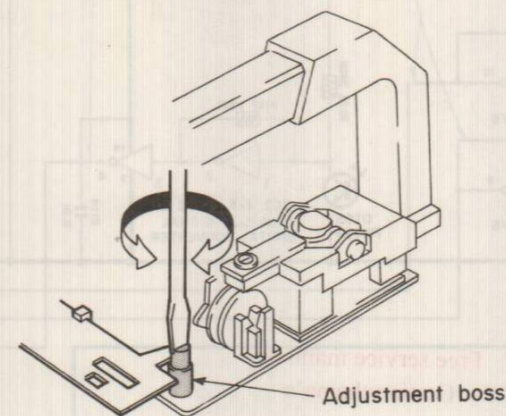

Fig. 5
- 1) Place AIWA test record (ATR-003) on the turntable, press the START/CUT button and turn the adjustment boss to adjust so that the auto-in count is 19~28. (Refer to Fig. 5)